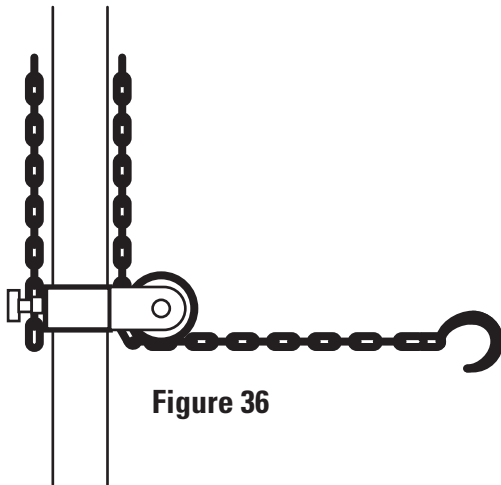

Figure 36
7. Let tower chain hang free momentarily to remove twist. Then, without twisting chain, attach hook to vehicle. Pull end of chain to tighten (see Figure 36).